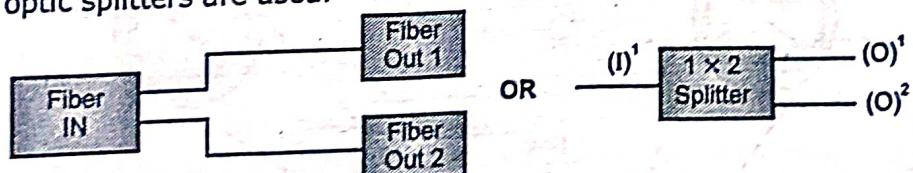

Fig. 3.3 : 1 x 2 Optical Splitter
- As shown in Fig. 3.3, splitters have many input and output terminals, especially applicable to passive optical networks (GPON, BPON, FTTX, EPON etc.).